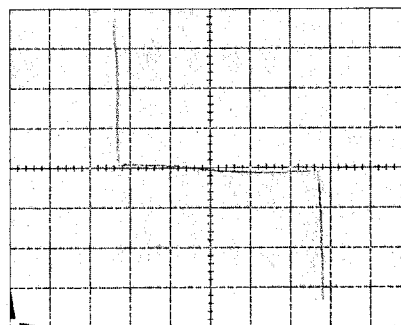

Figure 6-1. Output voltage swing with 2-K Ω load.
- 5) Measure trace — Press UPPER and LOWER STORE buttons on 577 to obtain clear, lasting trace. If necessary, press UPPER and LOWER ERASE first to clear screen. Check to see that middle of the gain curve extends for sufficient horizontal length before making sharp turns to vertical off-screen directions near ends. [2 divs each way from center, equal to $\pm 10\text{V}$ at 2 K, and 2.4 divs, or $\pm 12\text{V}$ at 10 K]. Refer to Figures 6-1 and 6-2. **3 2**